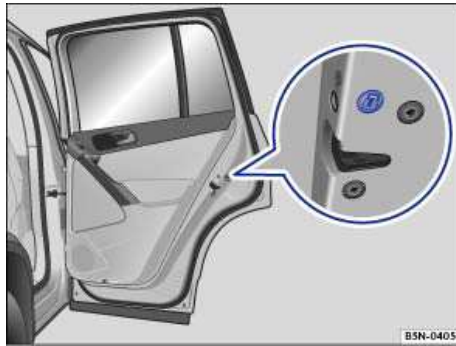

Fig. 183 On the front side of the right rear door: Emergency lock, covered by a rubber seal.
- Remove the rubber seal on the front side of the door. The seal is marked with a lock  ⇒ fig. 183.